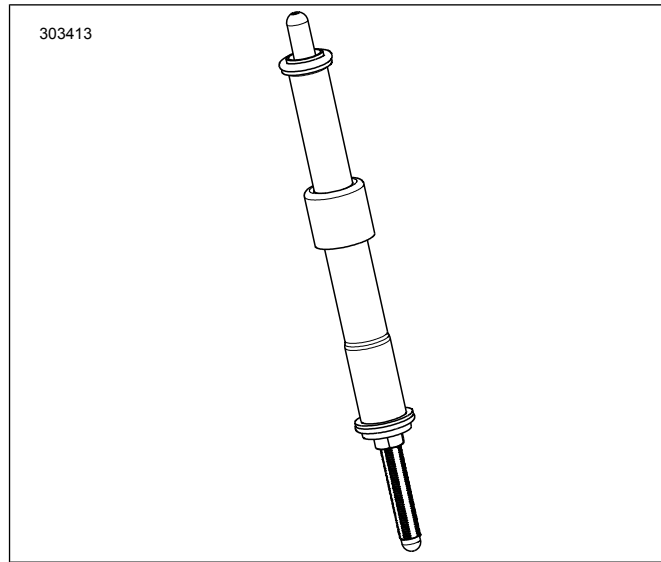

Figure 2. Pushrod Installed into Pushrod Cover
7. See Figure 2. Install intake pushrods into pushrod covers.